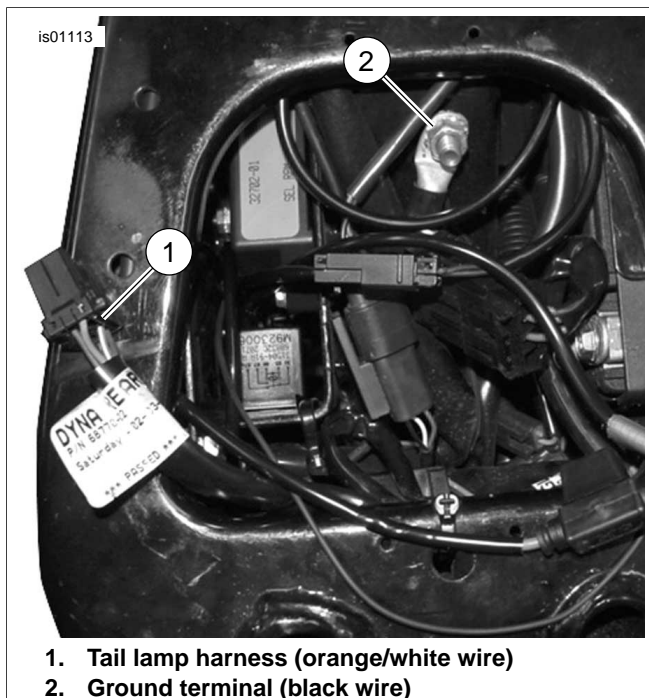

Figure 1. Power and Ground Connections (Dyna Models)
3. See Figure 1. Cut the black wire on the satellite receiver wire harness to easily reach the ground location, and crimp the ring terminal to the end of the wire per the Packard crimping tool instructions in the service manual appendix.
2. See Figure 1. Carefully slice open an area of the main harness wrap inside the side cover at an accessible point, and cut an orange/white main harness power lead.